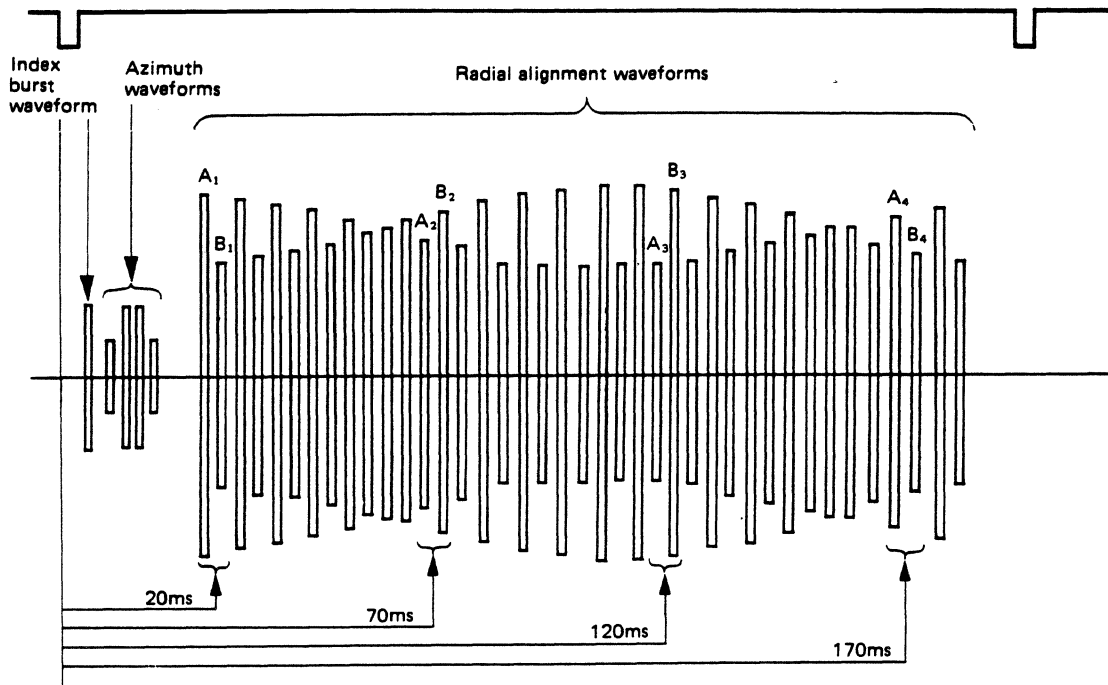

Fig. 4.3 Radial Alignment Waveform (DAD)
1. Check amplitude waveforms for Side 0 and Side 1. Waveforms such as shown in Fig. 4.3 can be seen.
2. Measure each of timing levels A₁ to A₄ and B₁ to B₄ (Fig. 4.3), and calculate the lobe ratio from the following formulas.